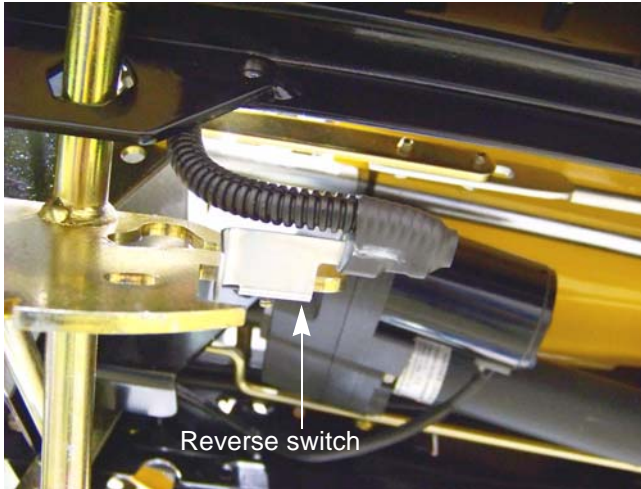

Figure 5.24
10. If the reverse switch is mounted on the drive control rod, disconnect it. See Figure 5.24.